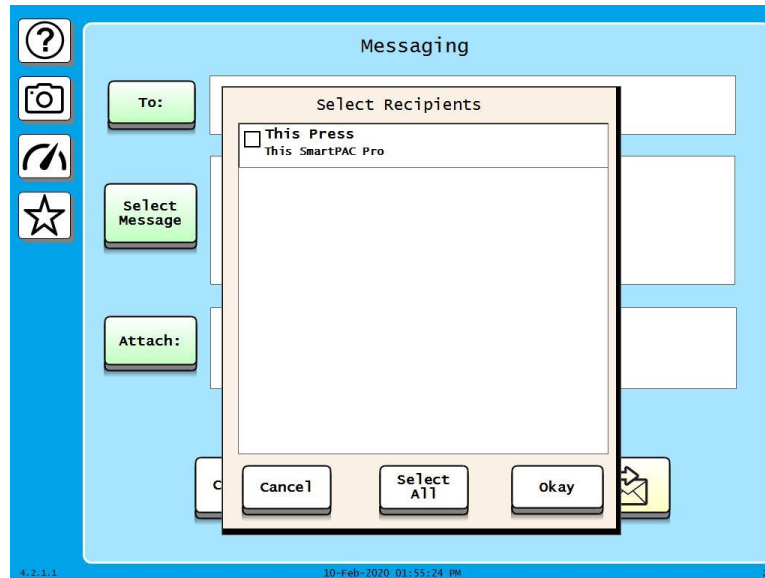

Figure 6-24. Messaging Screen: List of Recipients
1. Select MESSAGING on the Main Run Menu. A screen displays similar to the one shown in Figure 6-24, which lists the recipients you have set up using SmartView.